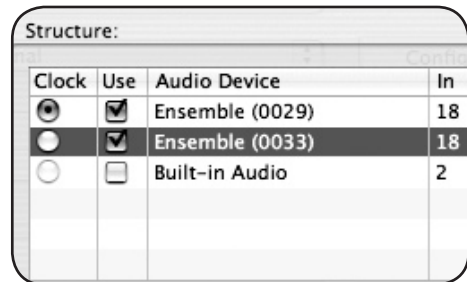

figure 21
c. In the Structure window, verify that all connected Ensembles appear; in the Use column, check the Ensembles to be used in the Aggregate Device. Click **Done** when you’re, uh, done. (figure 21)